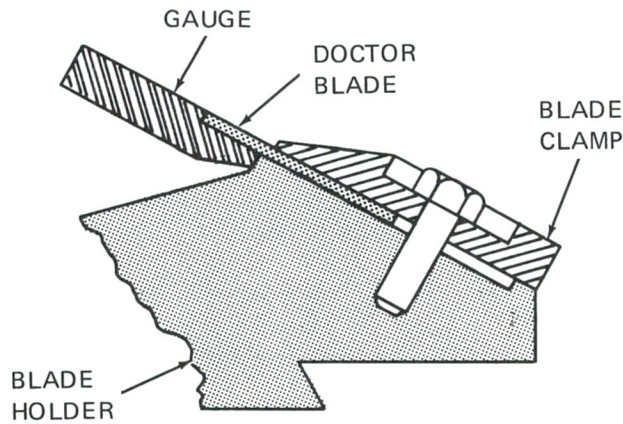

FIGURE 4-25. SETTING DOCTOR BLADE
- Step 8) Place the blade setting gauge (Figure 4-25) on the blade edge and push the blade into the holder until the banked face of the gauge rests against the blade holder and the blade rests against the gauge.